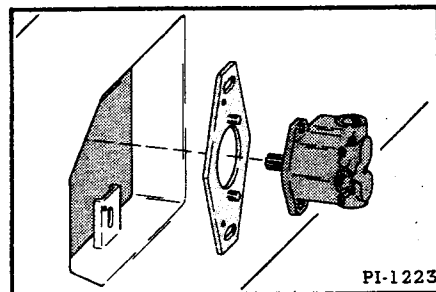

Fig. 148 Removing Pump from Machine
1. Remove the hydraulic pump and pump mounting plate from the machine (Figure 148).